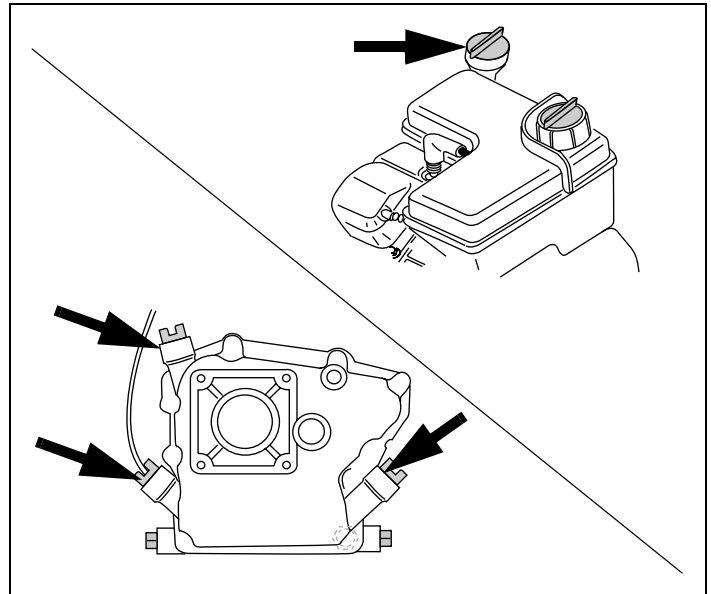

Figure 22. Possible Oil Fill Locations
1. Be sure you find the correct drain plug location, if provided. See Figure 22.
8. Fill with recommended oil. See "III. Oil and Fuel Specifications" instructions on page 3. See Table 1, on page 3. See Figure 22.